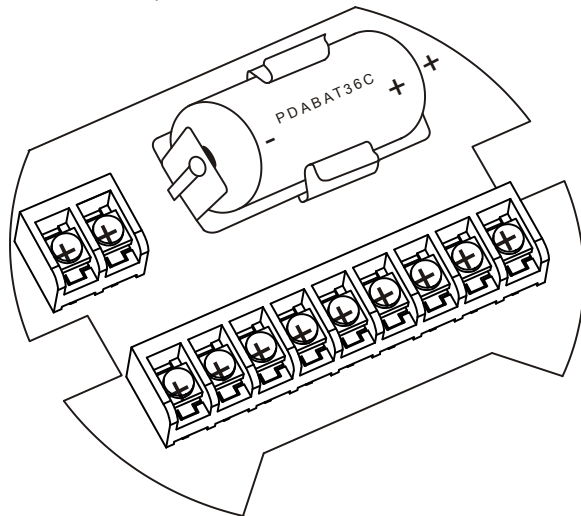

Figure 14. Battery Orientation
- Install new PDABAT36C into battery clip with polarity as shown in Figure 14.